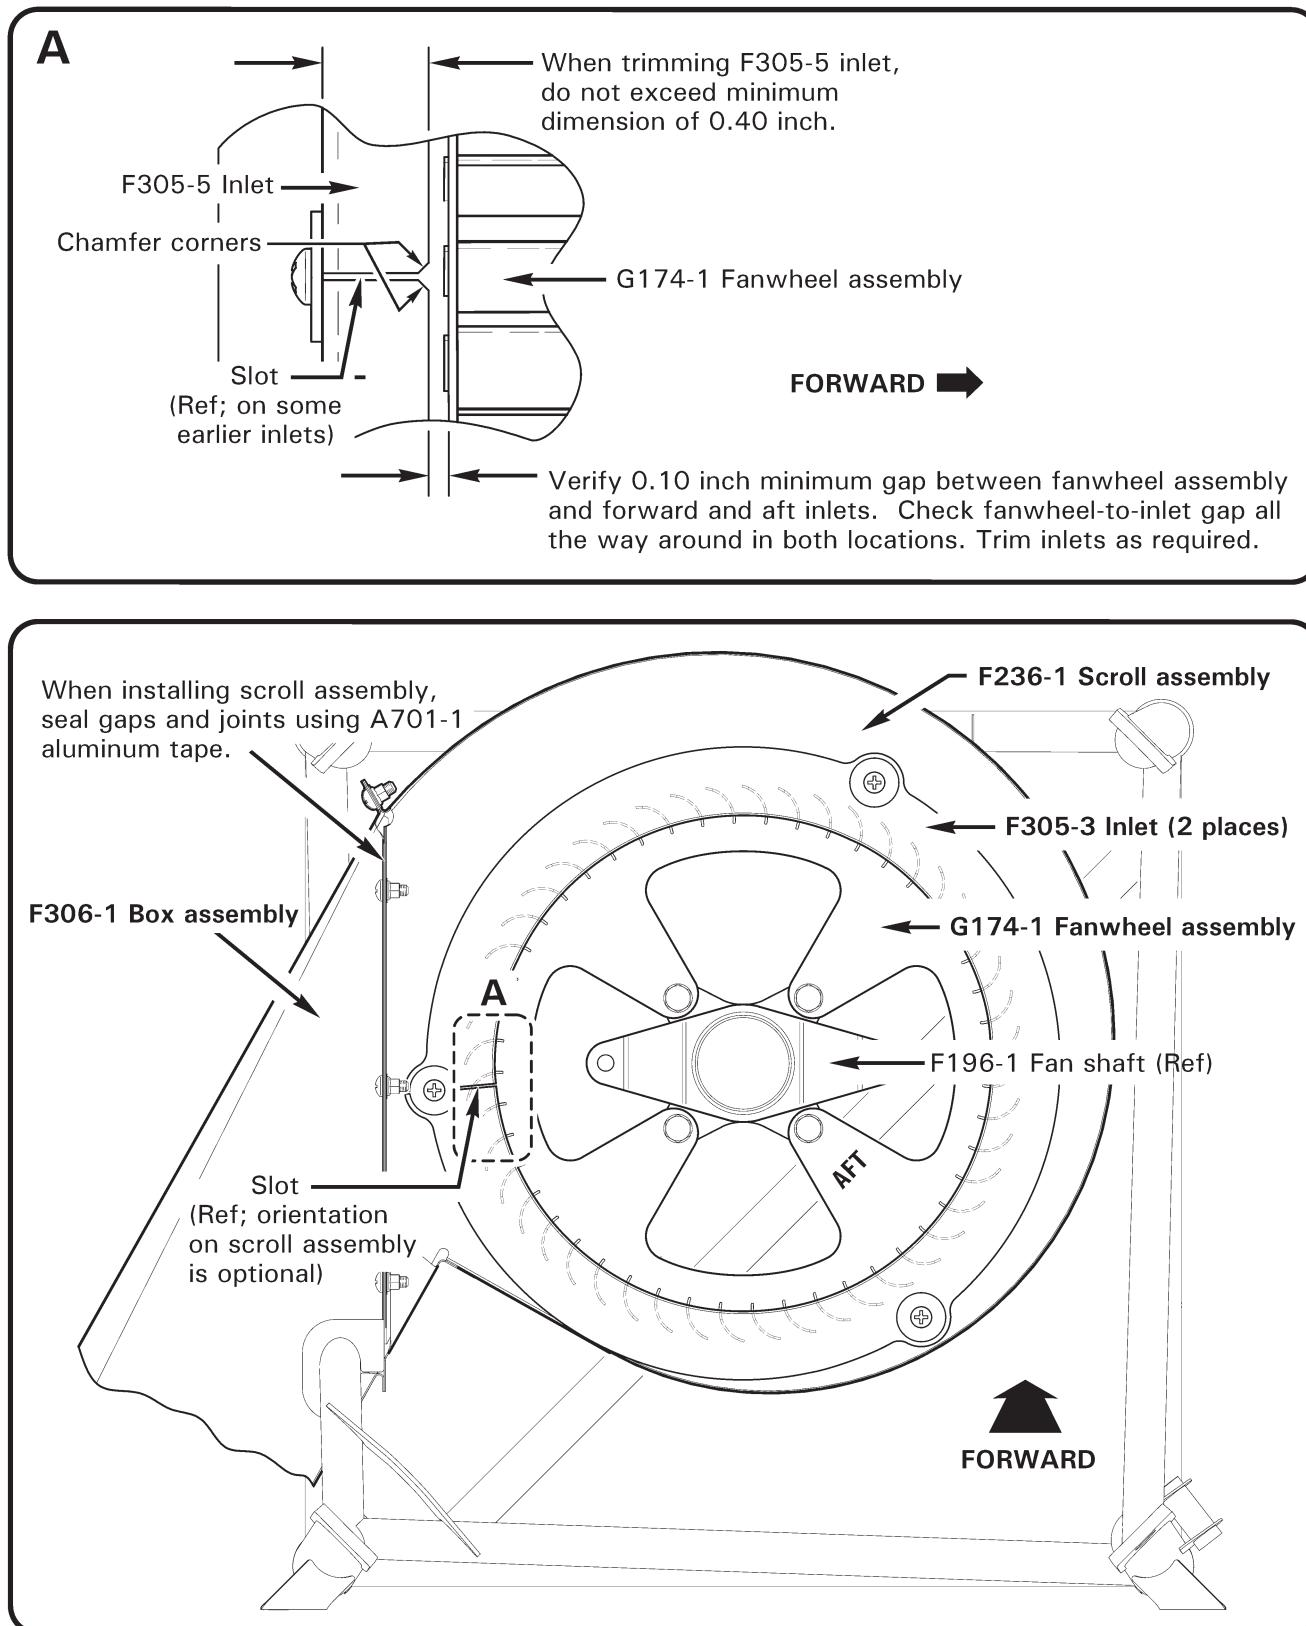

FIGURE 79-2 SCROLL AND FANWHEEL ASSEMBLIES
2. Refer to Figure 79-2. Remove perimeter screws securing F236-1 scroll assembly to F306-1 box assembly.
1. Refer to Figure 79-2. Observing "AFT" orientation marking on fanwheel plate, place G174-1 fanwheel assembly inside F236-1 scroll assembly accordingly. Position F305-5 inlets on scroll and install hardware. Verify security.
2. Refer to Figure 79-2. Verify 0.10 inch minimum gap between G174-1 fanwheel assembly and forward and aft F305-5 inlets. Check gap all the way around; rotate fanwheel and check gap again (several positions). If gap is within limits at forward and aft inlets, no further action is required.
1. Refer to Figure 79-2. Remove hardware securing F305-5 inlets to F236-1 scroll assembly.
3. Refer to Figure 79-2, Detail A. Trim inlets as required to meet minimum fanwheel-to-inlet gap. Do not exceed minimum inlet dimensions.